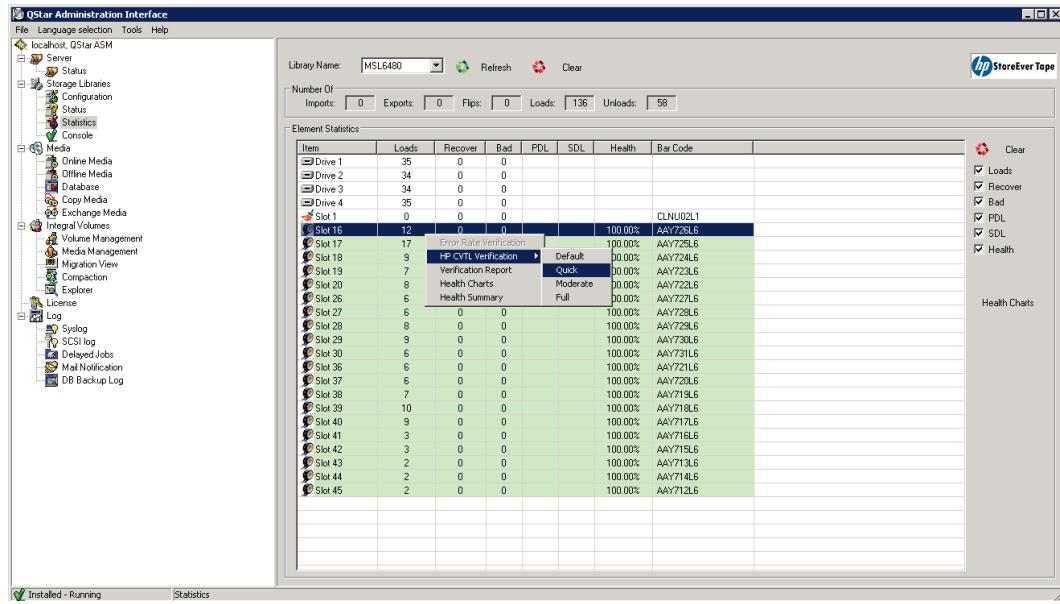

Figure 23. Manually running verification for tape media
2. Right-click on any **Slot** (the barcode for each slot is also listed), which is your tape cartridge, and one of the available options listed will be **HPE CVTL Verification**. You can then choose to run a **Quick**, **Moderate**, or **Full** verification of the selected media. See **figure 23** as an example. For more information on how long each data verification test will take to complete, refer to the section **Example Verification Times** of the technical white paper on HPE StoreEver Data Verification titled Protecting Your Data.
- You can view a graphical representation of various statistics for each media in your HPE StoreEver Tape Library while on the **Statistics** page under **Storage Libraries** in the QStar Administration Interface by right-clicking on the preferred **Slot** then choose **Health Charts** or select the preferred **Slot** then click on the **Health Charts** button (both Health Charts selections can be seen in **figure 23** above).